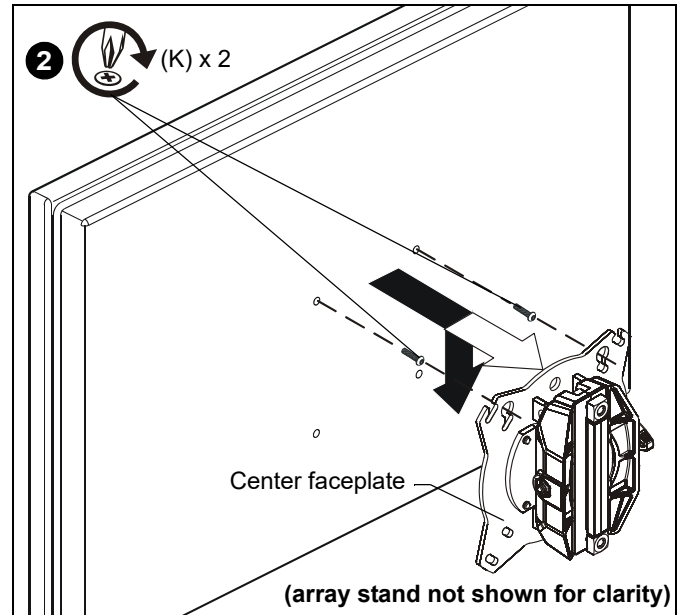

Figure 16
2. Using Phillips screwdriver, carefully install two M4 x 12mm Phillips pan machine screws (K) into the *upper* mounting holes on the display. Thread screws completely into display, then back out 3 complete turns. (See Figure 16)
3. Pick up and align display so that screws (K) (installed on the back of the display in the previous step) fit into the mounting holes on the faceplate. Lower the display firmly into place. (See Figure 16)